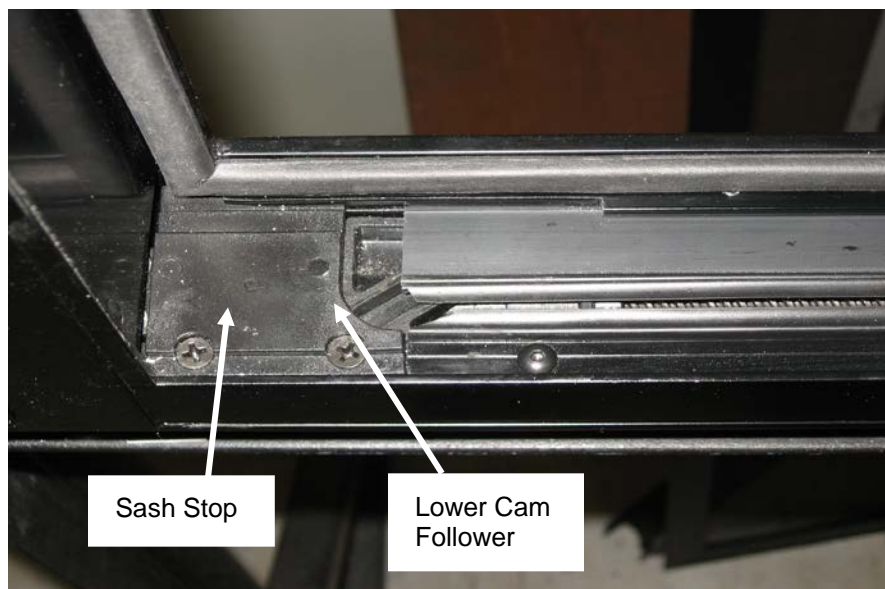

FIGURE 52: PROPER ALIGNMENT
1. Align the leading edge of the slot on the lower cam follower block with the sash stop. Use the power toggle switch to obtain the correct alignment. (Figure 52)